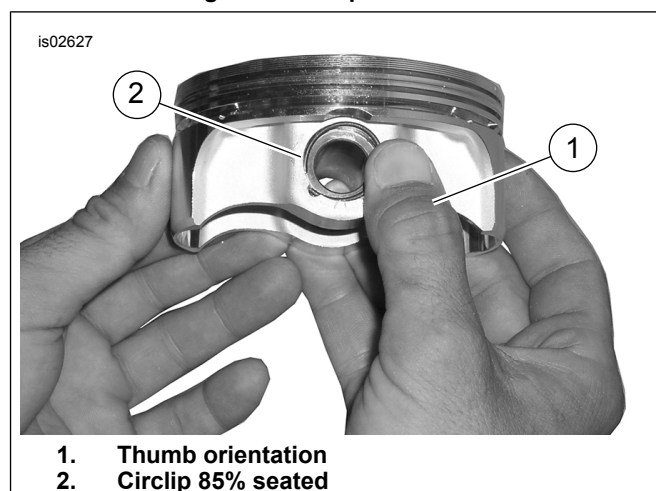

Figure 4. Install Circlip
2. See Figure 4. Position your thumb (1) as shown. Press firmly until approximately 85% of the circlip (2) is seated in the groove.